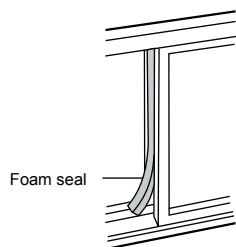

Fig. 15
5. Cut the foam seal to an appropriate length and seal the open gap between the top window sash and outer window sash. Shown as in Fig. 15.